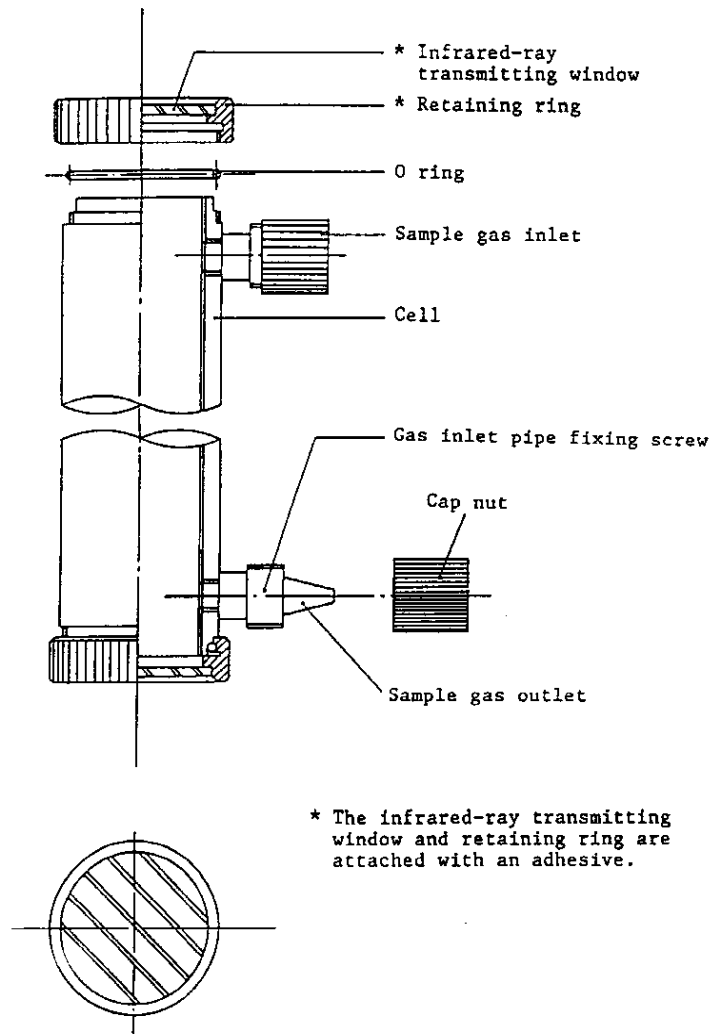

Fig 3A Sample Cell Structure (Pipe Cell)
- (1) Turn off the power switch, stop the flow of sample gas and flow zero gas for a few minutes. Loosen the knurled knobs on the front panel and pull out the analyser interior by means of the grips.
- (2) Loosen the cap nuts fixing the gas inlet pipe, and detach the internal gas inlet pipe.
- (3) Remove the screws from the left and right cell retaining plates. In the case of the sample switching type, remove both the sample and reference cells. With the standard type, remove only the sample cell.
- (4) Turn the retaining ring (with transparent window) to the left and remove it from the cell. Refer to Fig. 3A.
- (5) For cleaning the infrared-ray transmitting window and cell interior, first remove heavy contamination with a soft brush or the like, then wipe lightly with the furnished cleaning cloth for sample cell. Be especially careful when cleaning the window since it is easily scratched.